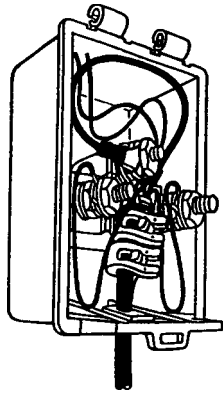

FIGURE 7
5.02 Position SERVI-BOND™ Shield Connector hook (or ring terminal) over ground post and secure. Hook (or ring) must be installed left to right. See Figure 7.